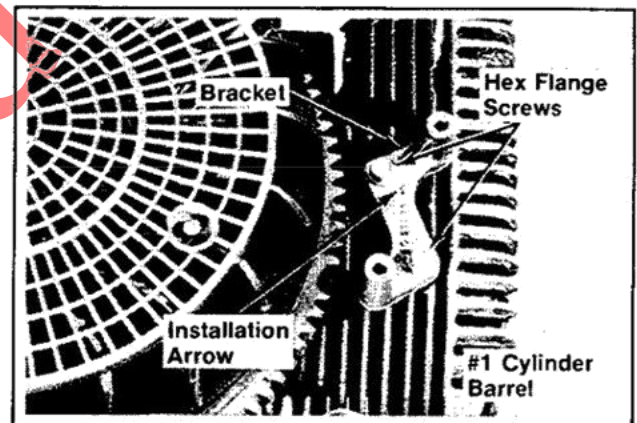

Figure 11-40. Installing Ignition Module Bracket.
1. Install the bracket and hex flange screws to #1 cylinder barrel. Make sure the arrow on bracket is pointing to the carburetor side of crankcase. Refer to Figure 11-40.